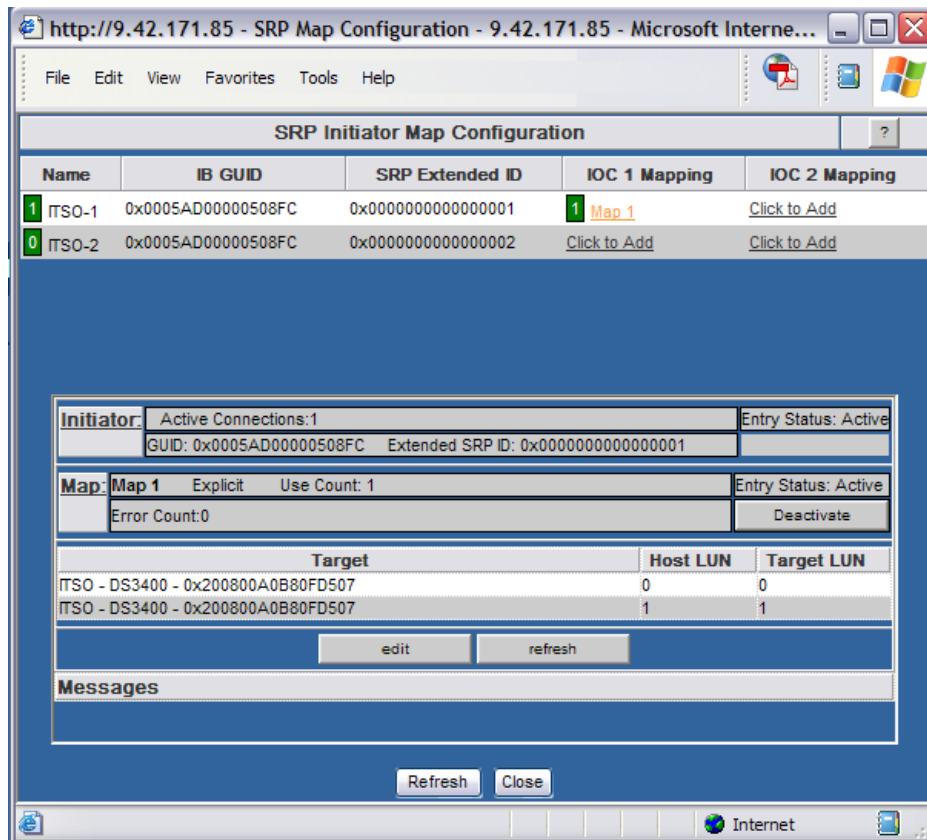

Figure 4-66 Active SRP Map
20. On the bridge web GUI, the boxes beside the SRP initiator name and the IOC Map name indicate the active connections to the virtual HBA, as shown in Figure 4-66. It should go from 0 to 1. You might need to click **Refresh** on the SRP map page.